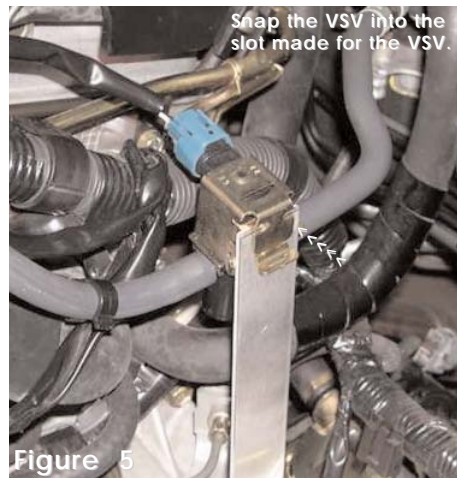

Figure 5
4. Press the vacuum switching valve into the slot located on top of the bracket. Position it and press-in until it snaps in place. (See fig. 5)